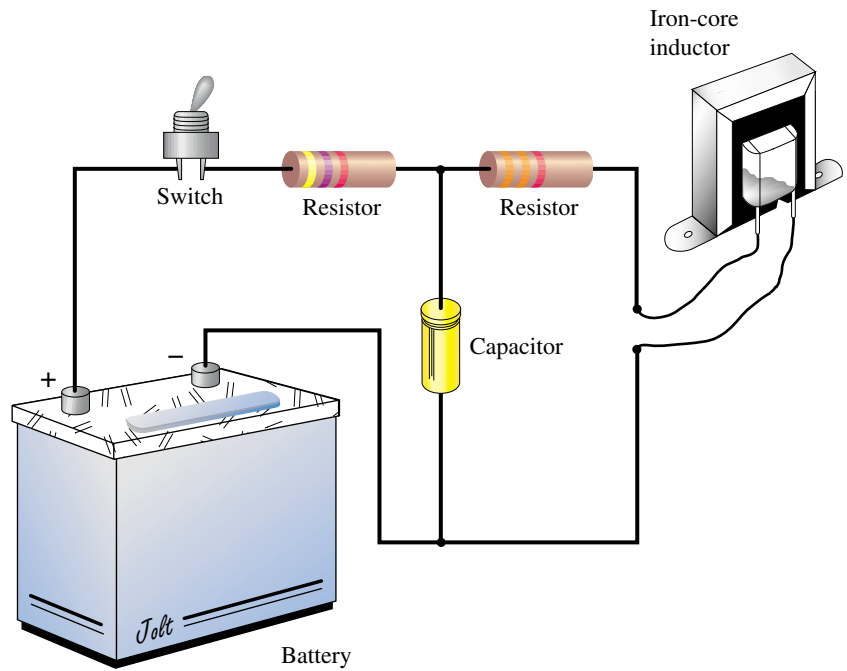

FIGURE 1-11
49. Consider the pictorial diagram of Figure 1-11. Using the appropriate symbols from Table 1-7, draw this in schematic form. Hint: In later chapters, there are many schematic circuits containing resistors, inductors, and capacitors. Use these as aids.